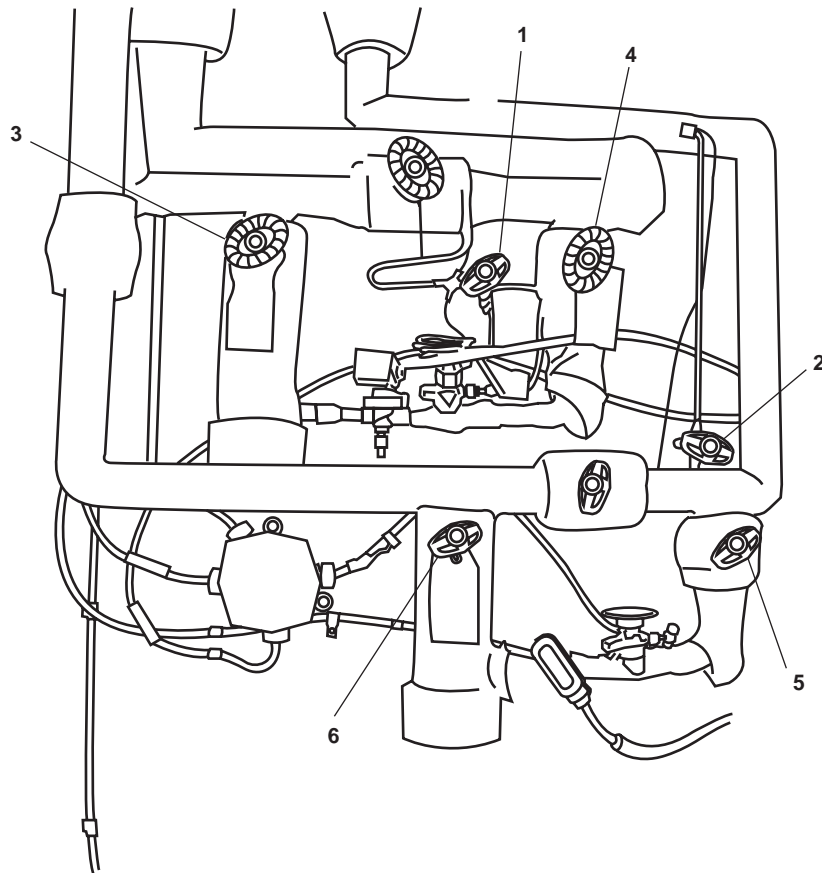

Figure 3. Main Deck Fan Room Air Conditioning Refrigerant Valves
- a. RFAC-29, EQL LINE (figure 3, item 1), air conditioning 2 equalizing line
- b. RFAC-30, EQL LINE (figure 3, item 2), air conditioning 1 equalizing line
- c. RFAC-33, TXV/STNR/LLSV COV, R1-25-2, 4 COIL (figure 3, item 3), TXV strainer and low-level cutoff from air conditioning 2
- d. RFAC-34, TXV COV, R01-32-2 (figure 3, item 4), TXV strainer and low-level cutoff from air conditioning 2
- e. RFAC-36, TXV/STNR/LLSV COV, R1-25-2, 8 COIL (figure 3, item 5), TXV strainer and low-level cutoff from air conditioning 1
- f. RFAC-37, TXV/STNR/LLSV COV, R1-25-2, 8 COIL (figure 3, item 6), TXV strainer and low-level cutoff from air conditioning 1
- g. RFAC-38, 4 COIL SUCT, COV R1-25-2 (figure 3, item 9), coil suction
- h. RFAC-42, 8 COIL SUCT COV, R1-25-2 (figure 3, item 10), coil suction